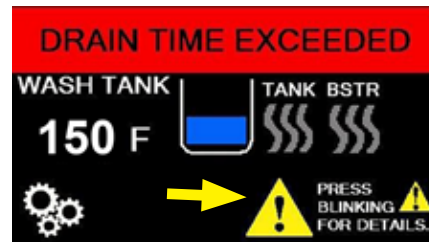

Fig. 100 - Error screen with blinking icon
1. If the machine does not drain completely in the allotted time then "DRAIN TIME EXCEEDED" and a blinking fault icon appear, (Fig. 100).